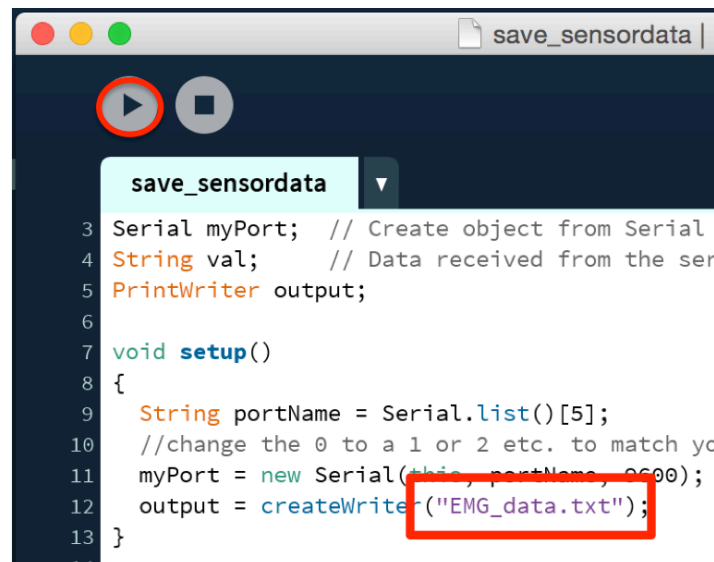

Figure 3. Processing code.
8. Open the Processing code provided on bCourses (save_sensordata.pde). *Be sure to change the name of the .txt file on Line 12 to save your data in a new file* (Figure 3 – red box). Each time you run the software it will save over the existing .txt file, so you must change the file name before re-running.
9. Run Processing code to save data collected from the Arduino (Figure 3 – red circle).